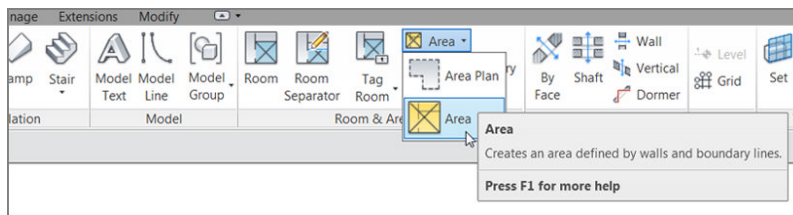

FIGURE 15.26: The Area button
8. On the Room & Area panel, click the Area button, as shown in Figure 15.26.